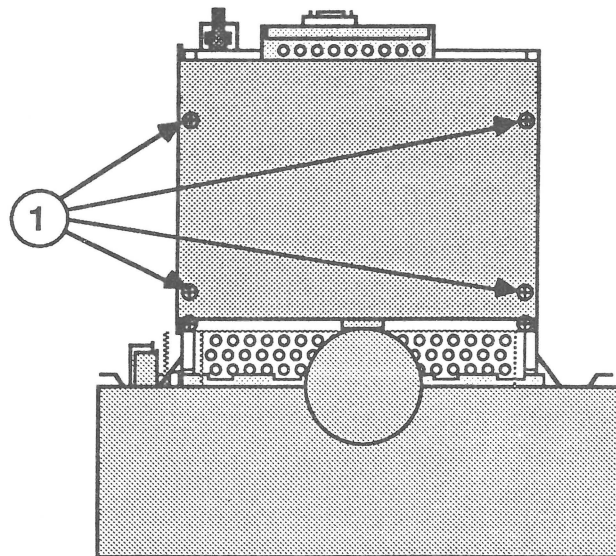

FIGURE 30
5. From the bottom of the chassis, remove the four screws (Figure 30, #1) that secure the metal screen to the chassis frame.